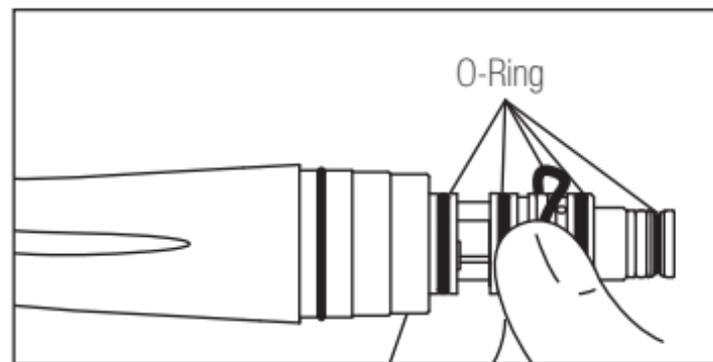

Fig.8
- 2) Gently remove each O-Rings with your thumb. (Fig.8)